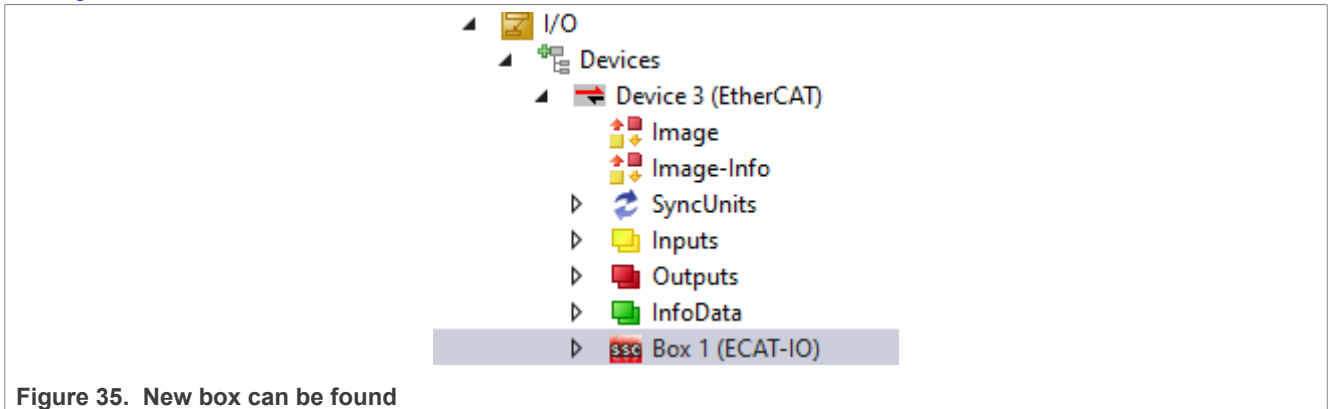

Figure 35. New box can be found
3. Delete the old box and scan the box again. The new box with EEPROM burned can be found as shown in Figure 35.